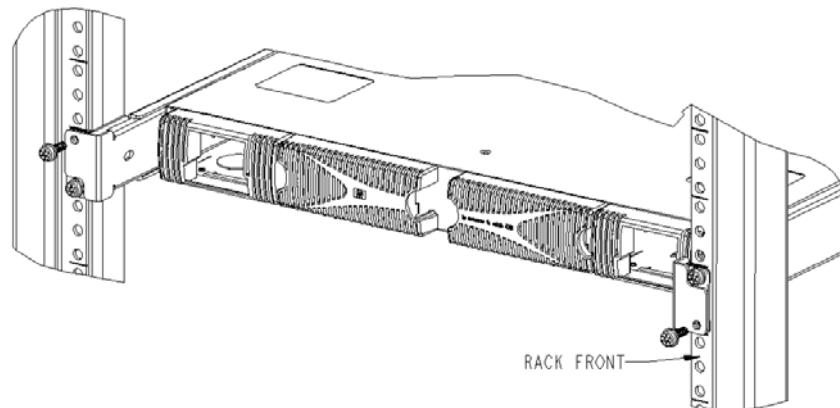

Figure 2-9. Installing Switch into the Rack
7. Insert the switch with the attached inner rails into the outer rails. Assemble (2) remaining M5 Torx screws to complete the installation. See Figure 2-9.